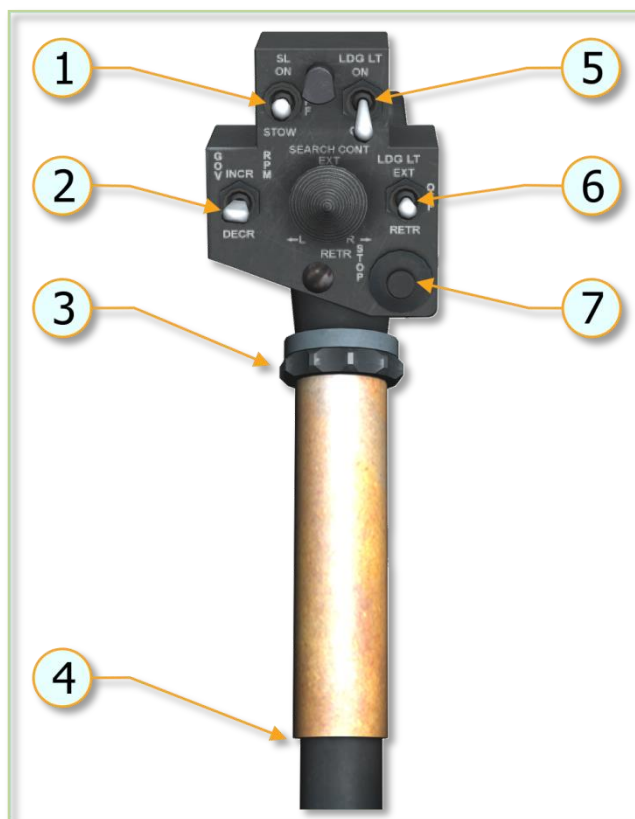

Figure 4.5. Stabilizer bar.
B. STABILIZER BAR. The stabilizer bar is mounted on the main rotor hub trunnion assembly in a parallel plane, above and at 90 degrees to the main rotor blades (Figure 4.5).